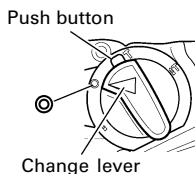

Fig. 12
- (1) Mount the bull point or cold chisel.
- (2) Press the push button and set the change lever to  mark. (Fig. 12)